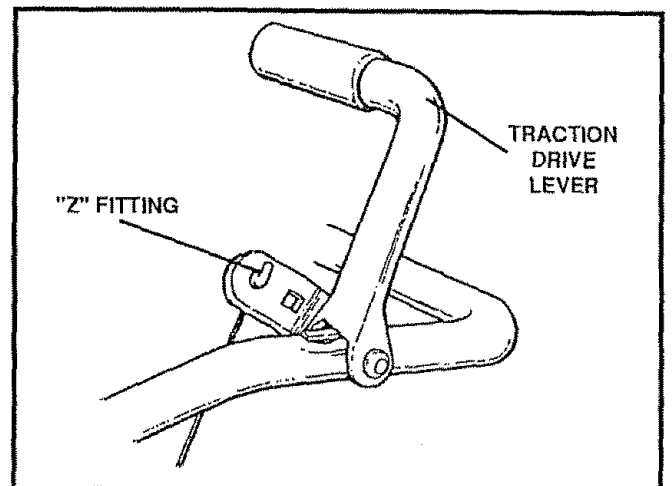

FIG. 3
**NOTE:** If the cables have become disconnected from the clutch levers, reinstall the cables as shown in Figure 3.